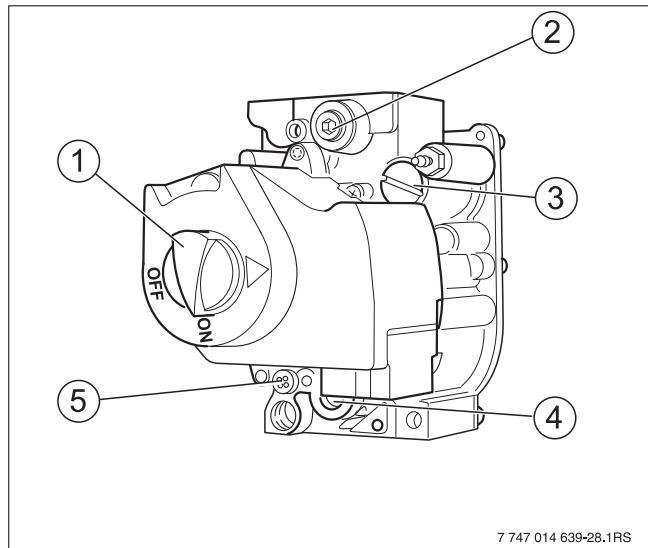

Fig. 23 Gas valve
11. Check nozzle pressure. Set the orifice pressure according to Table 12 while the boiler is operating. To do so, remove the safety screw for adjusting the orifice pressure (→ Fig. 23 [3]) from the gas valve. Turn the adjustment screw clockwise to increase the orifice pressure. Turn the adjustment screw counterclockwise to decrease the pressure.
The adjustment screw is located behind the safety screw for the pilot orifice pressure setting (→ Fig. 23, [5]).
16. Remove the safety screw for the pilot orifice pressure setting (→ Fig. 23, [5]).
17. After adjustment, tighten the safety screw for the pilot orifice pressure setting (Fig. 23, [5]) again.
If the main burner flame is too weak, yellow or goes out, turn the ON/OFF knob (→ Fig. 23, [1]) on the gas shutoff valve clockwise to the **OFF** position. Close the gas shutoff valve, disconnect heating system from the power supply and inform the customer service technician or gas supply company.